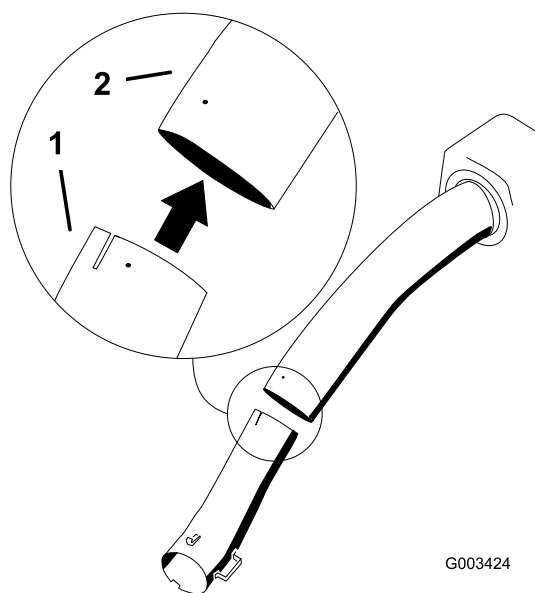

Figure 23
7. Install the lower tube into the upper tube (Figure 23).